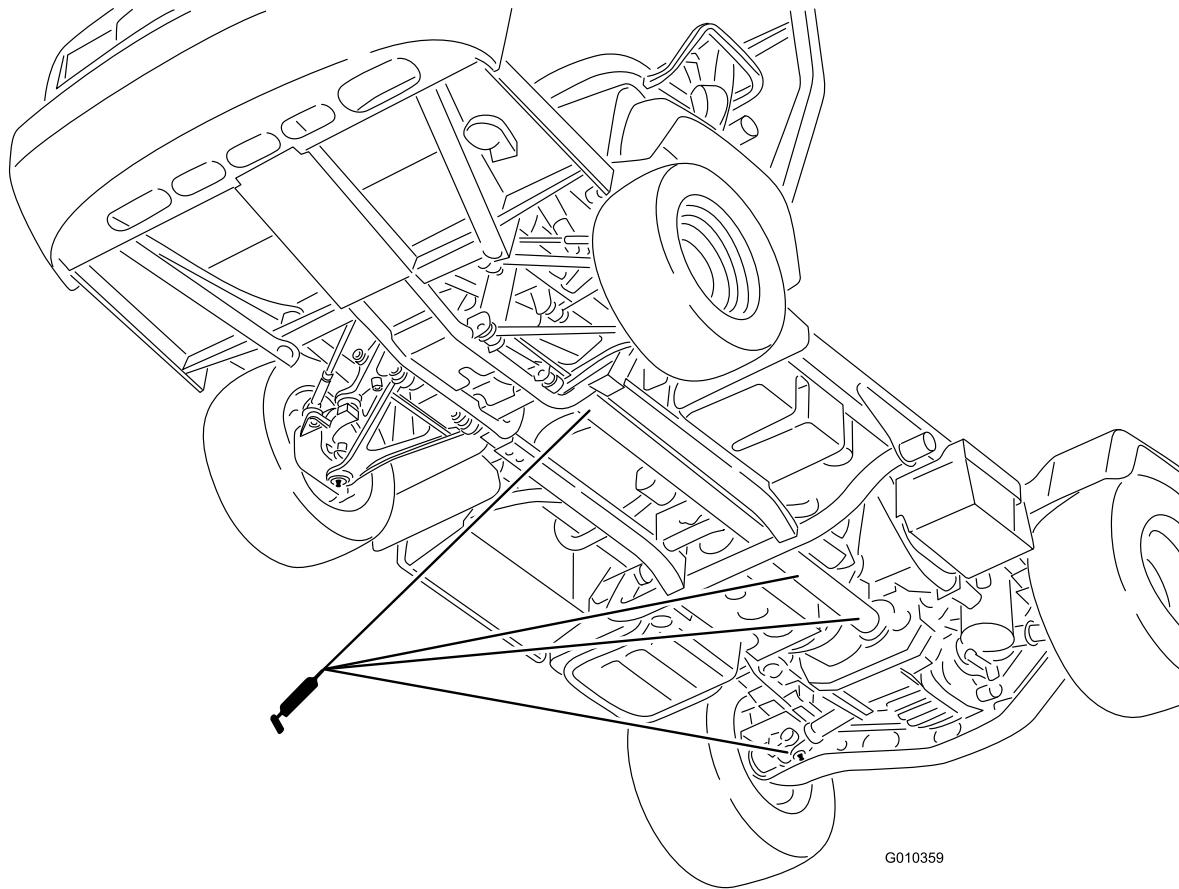

Figure 29
- **U-joint (18); refer to Figure 29**
- **4-wheel drive shaft (3); refer to Figure 29**